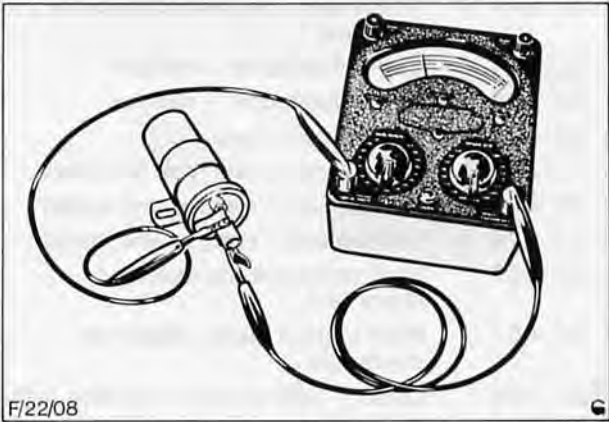

Fig. 21. Primary circuit resistance test
- (a) Primary Circuit, Fig. 21.